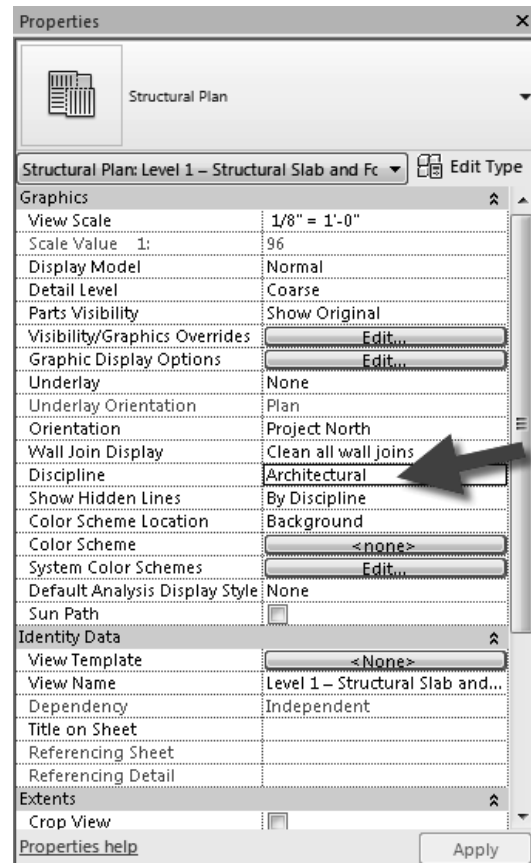

FIGURE 7-2.7 View properties – Structural Level 1
- a. Set the **Discipline** to **Architectural** as shown in Figure 7-2.7.